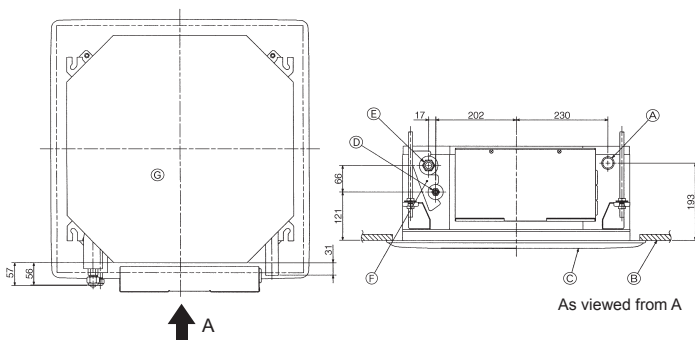

Fig. 5-7
5.3. Refrigerant and drainage piping locations (Fig.5-7)